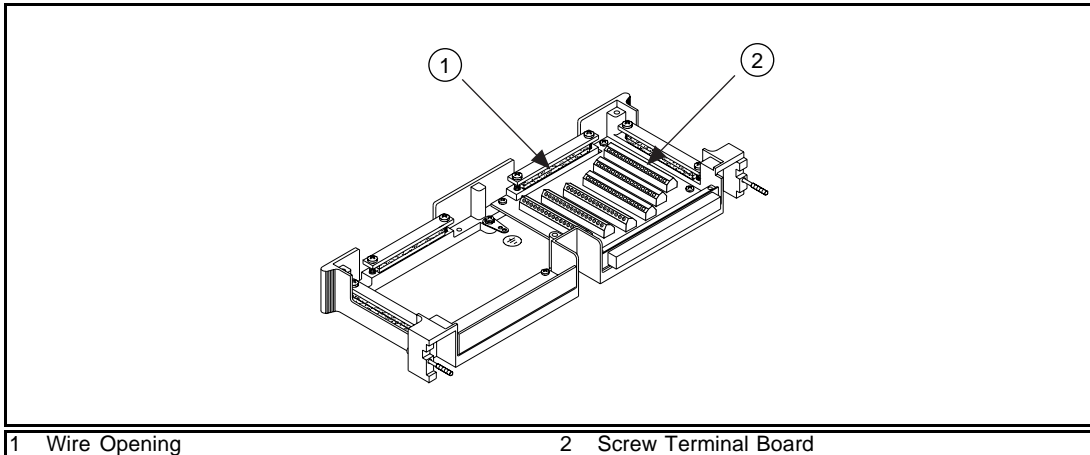

Figure 2. VXI-TB-196 Screw Terminal Board
1. To access the screw terminals (9), remove the terminal block cover (5) by loosening the three cover screws (6) with a Phillips-head number 1 screwdriver. These screws stay attached to the cover without falling out.
2. Choose the wire opening (Figure 2) through which your signal wires will pass and loosen the appropriate strain-relief bar screws (11) with a Phillips-head number 2 screwdriver. You can completely remove the strain-relief bar (12) for easier access.
4. Loosen the screws in the screw terminals (9) with a 0.09 in. flathead screwdriver.
Figure 2 shows the screw terminal board inside the uncovered VXI-TB-196 terminal block. The VXI-TB-296 will have two screw terminal boards inside, instead of the single board shown in the VXI-TB-196.